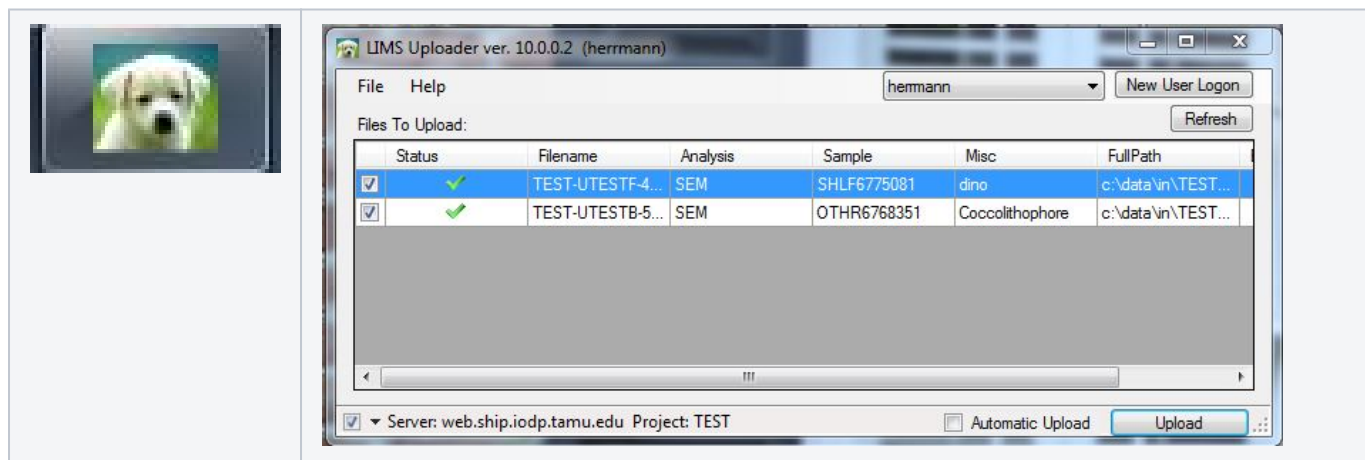

Figure 1. MegaUpodaTron5001 (MUT) icon and user interface
- MUT: MegaUploadTron5001 (MUT, *Figure 1*) is the software that will upload the SEM pictures and metadata file to the LIMS database. The program needs to be installed on the PC and up and running for successful uploading.